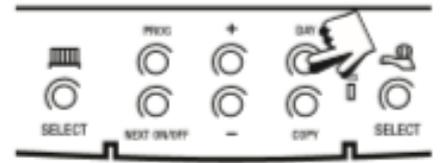

Fig. 5
5. Press the PROG button (Fig. 2) to return display to RUN mode (Fig. 5).
4. Press the PROG button (Fig. 2) to return display to RUN mode (Fig. 5).
3. Press the PROG button (Fig. 2) to return display to RUN mode (Fig. 5).